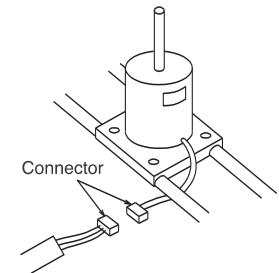

Fig.3
- D. Remove the connector of the motor, referring to Fig.3.